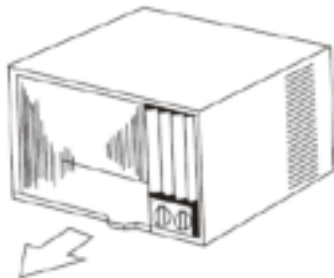

Figure 5
3. Grasp the handle on the front of the chassis and carefully slide the air conditioner unit out of the cabinet. (Figure 5)